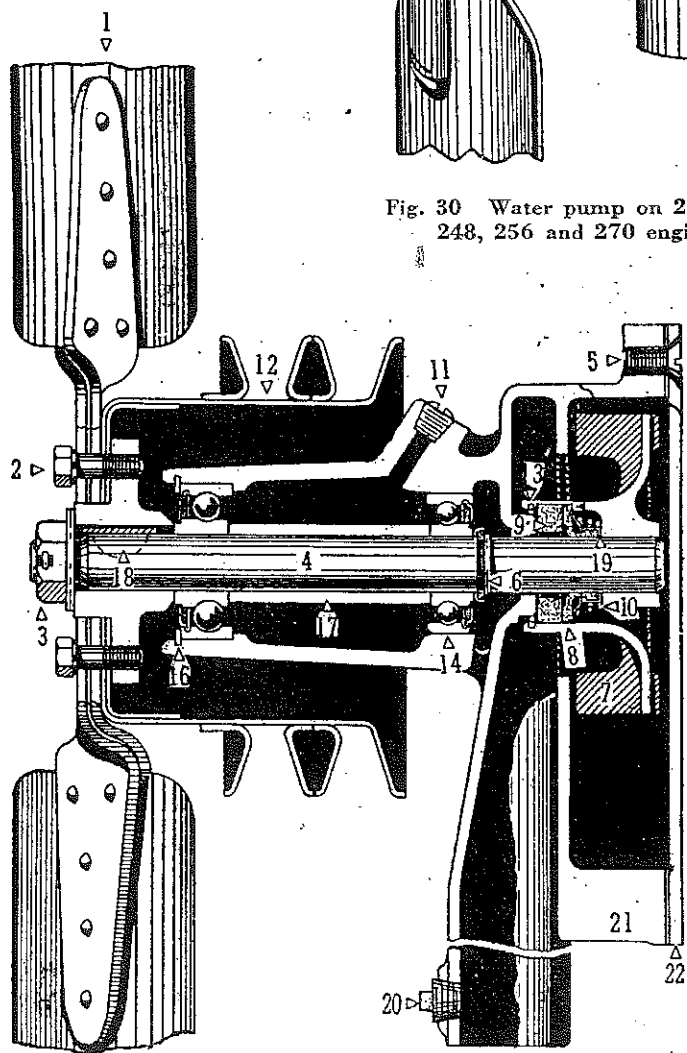

Fig. 31 Water pump. Typical of those used on 278, 308, 361, 426, 461 and 477 engines
**REMOVABLE BALL BEARING PUMPS**—On all engines other than those listed above, the water pumps are of the removable ball bearing type, Fig. 31. When disassembling, note the arrangement of the seal parts so that the new parts may be assembled correctly.